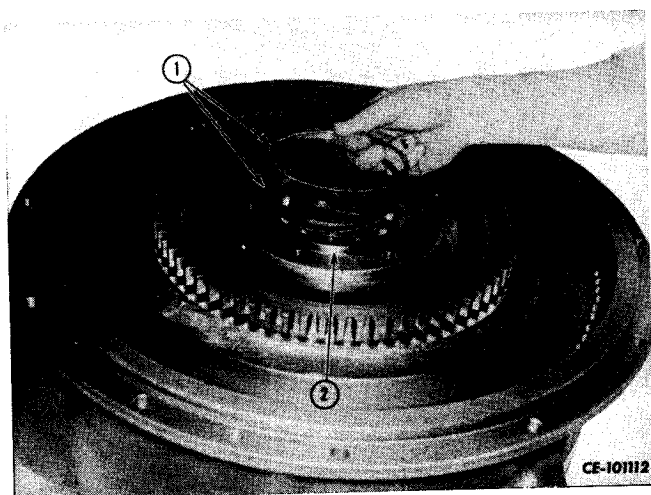

Figure 3-61
Place previously selected shim pack (1, fig. 3-61) on outer race of drive housing bearing (2).